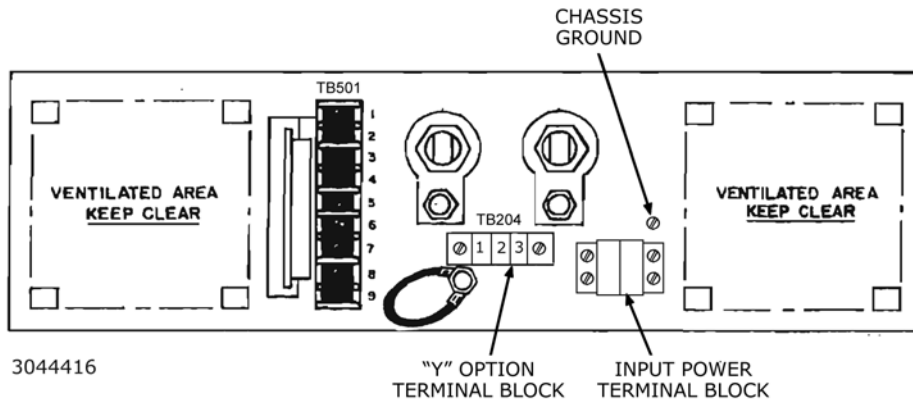
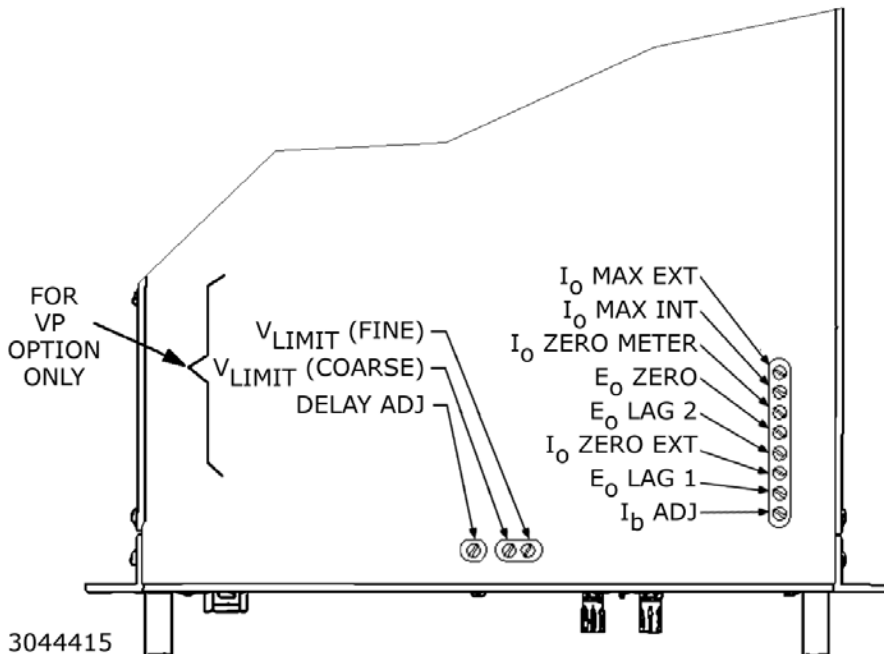

FIGURE 1. LOCATION OF ADDITIONAL BARRIER-STRIP FOR CURRENT LIMIT PROGRAMMING.
FIGURE 2. LOCATION OF INTERNAL ADJUSTMENTS
This power supply features a separate control channel for external programming of the current limit function. Control may be exercised by a d-c control voltage with respect to common (+ output sense), or by a potentiometer. Special rear terminals have been installed at the rear (see FIG. 1). The internal calibrating controls for the external current limit control channel (I_o ZERO, R56, and I_o MAX, R54) are accessible (without cover removal) through the top cover of the JQE Power Supply (see FIG. 2).
9. Identify A1R56 location (see Figure 2) and adjust this trimpot for output current of
9. Identify I_O MAX, A1R54 location (see Figure 2) and adjust this trimpot for output current of $I_O \text{ max} \pm(0.02\%) (I_O \text{ max})$